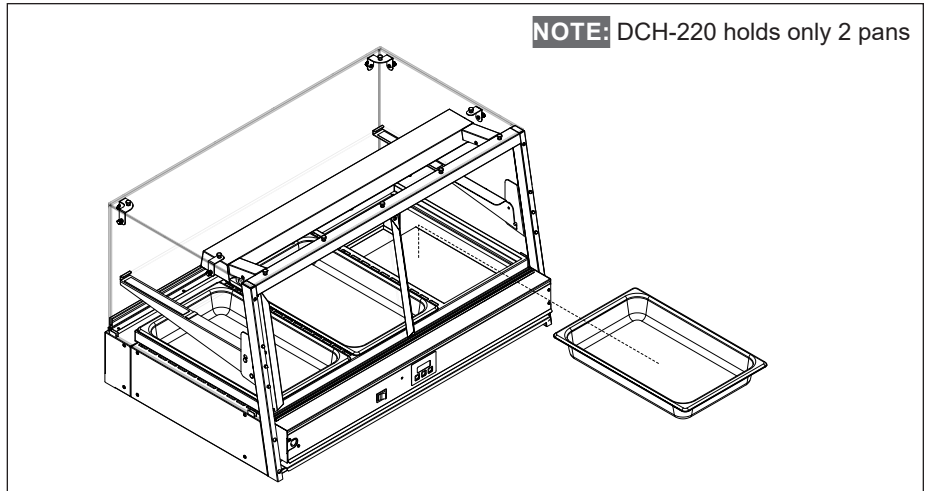

Figure 4. Loading Pans
4. Open the rear door(s) and place the serving table pan(s) into the unit (Figure 4). Load the pan(s) with the food product using tongs or a similar utensil. Close the door(s).